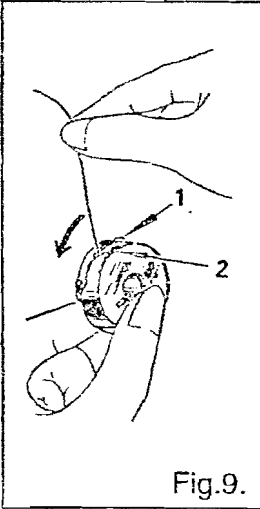

Fig.9.
1. Put the bobbin into bobbin case. Pull thread into notch 1 and draw it under tension spring 2. (Fig.9)